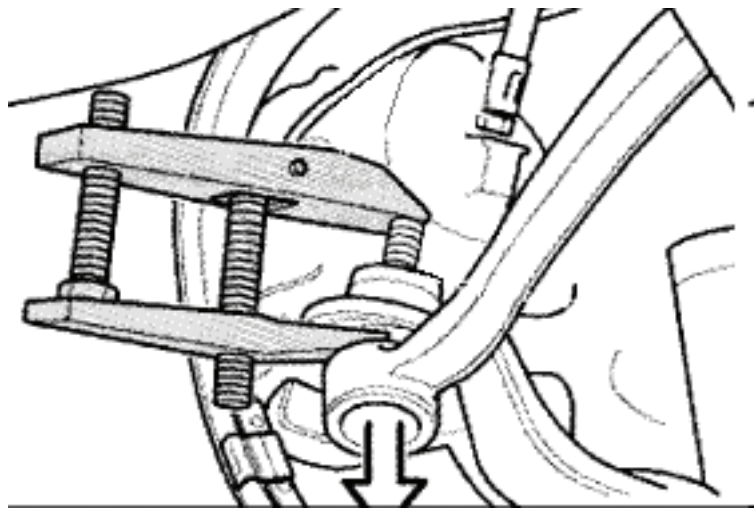

fig. 5
2. Press the track rod out of the spindle (fig. 5).